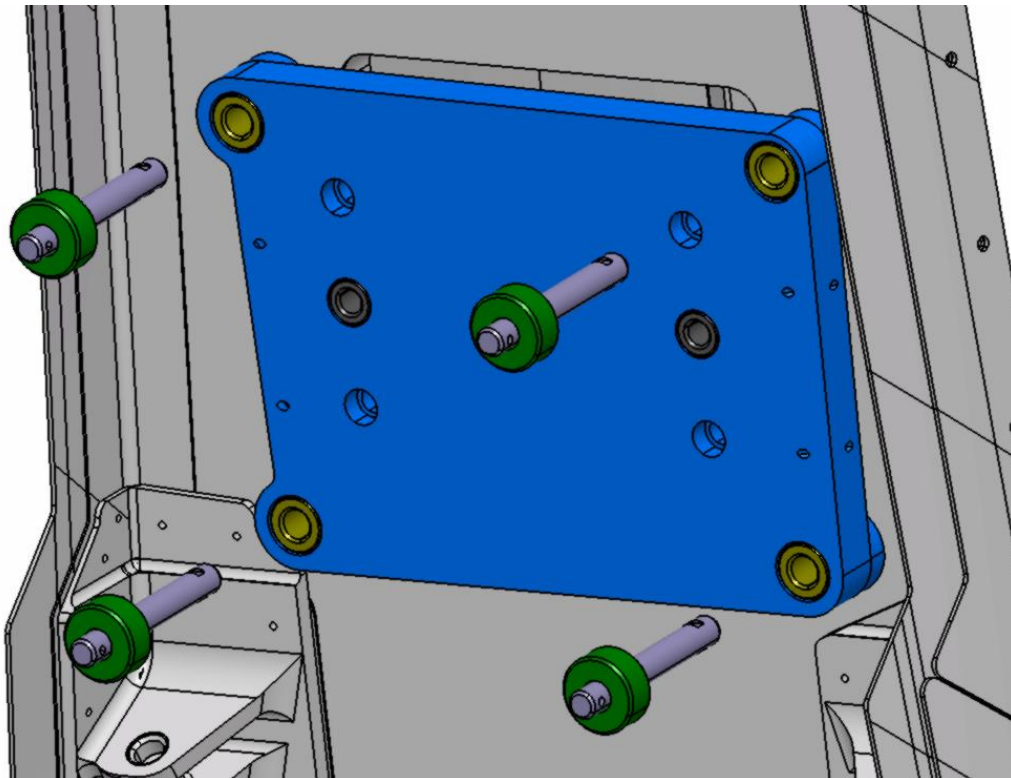

Figure 29: Phase 1 - T.G.B. FITTING INSTALLATION.
5. Lock the I.G.B. fitting using the four pin shown in figure 29 and remove the tool from the AW139 Fin Assy.